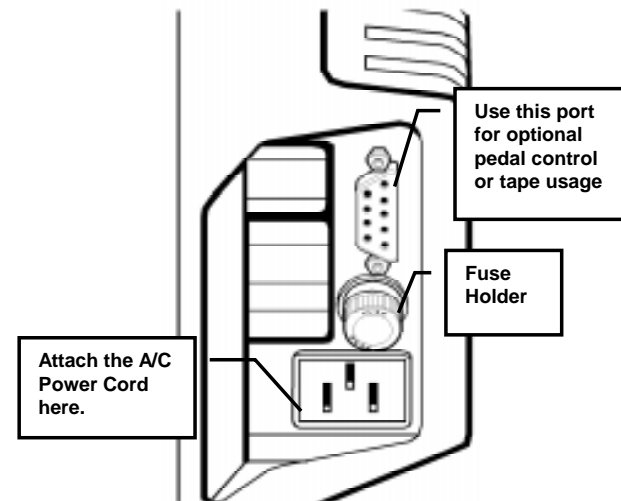

Figure 13 - The Electrical Panel
2. Attach the female end of the power cord to the dispenser connector. See Figure 13.